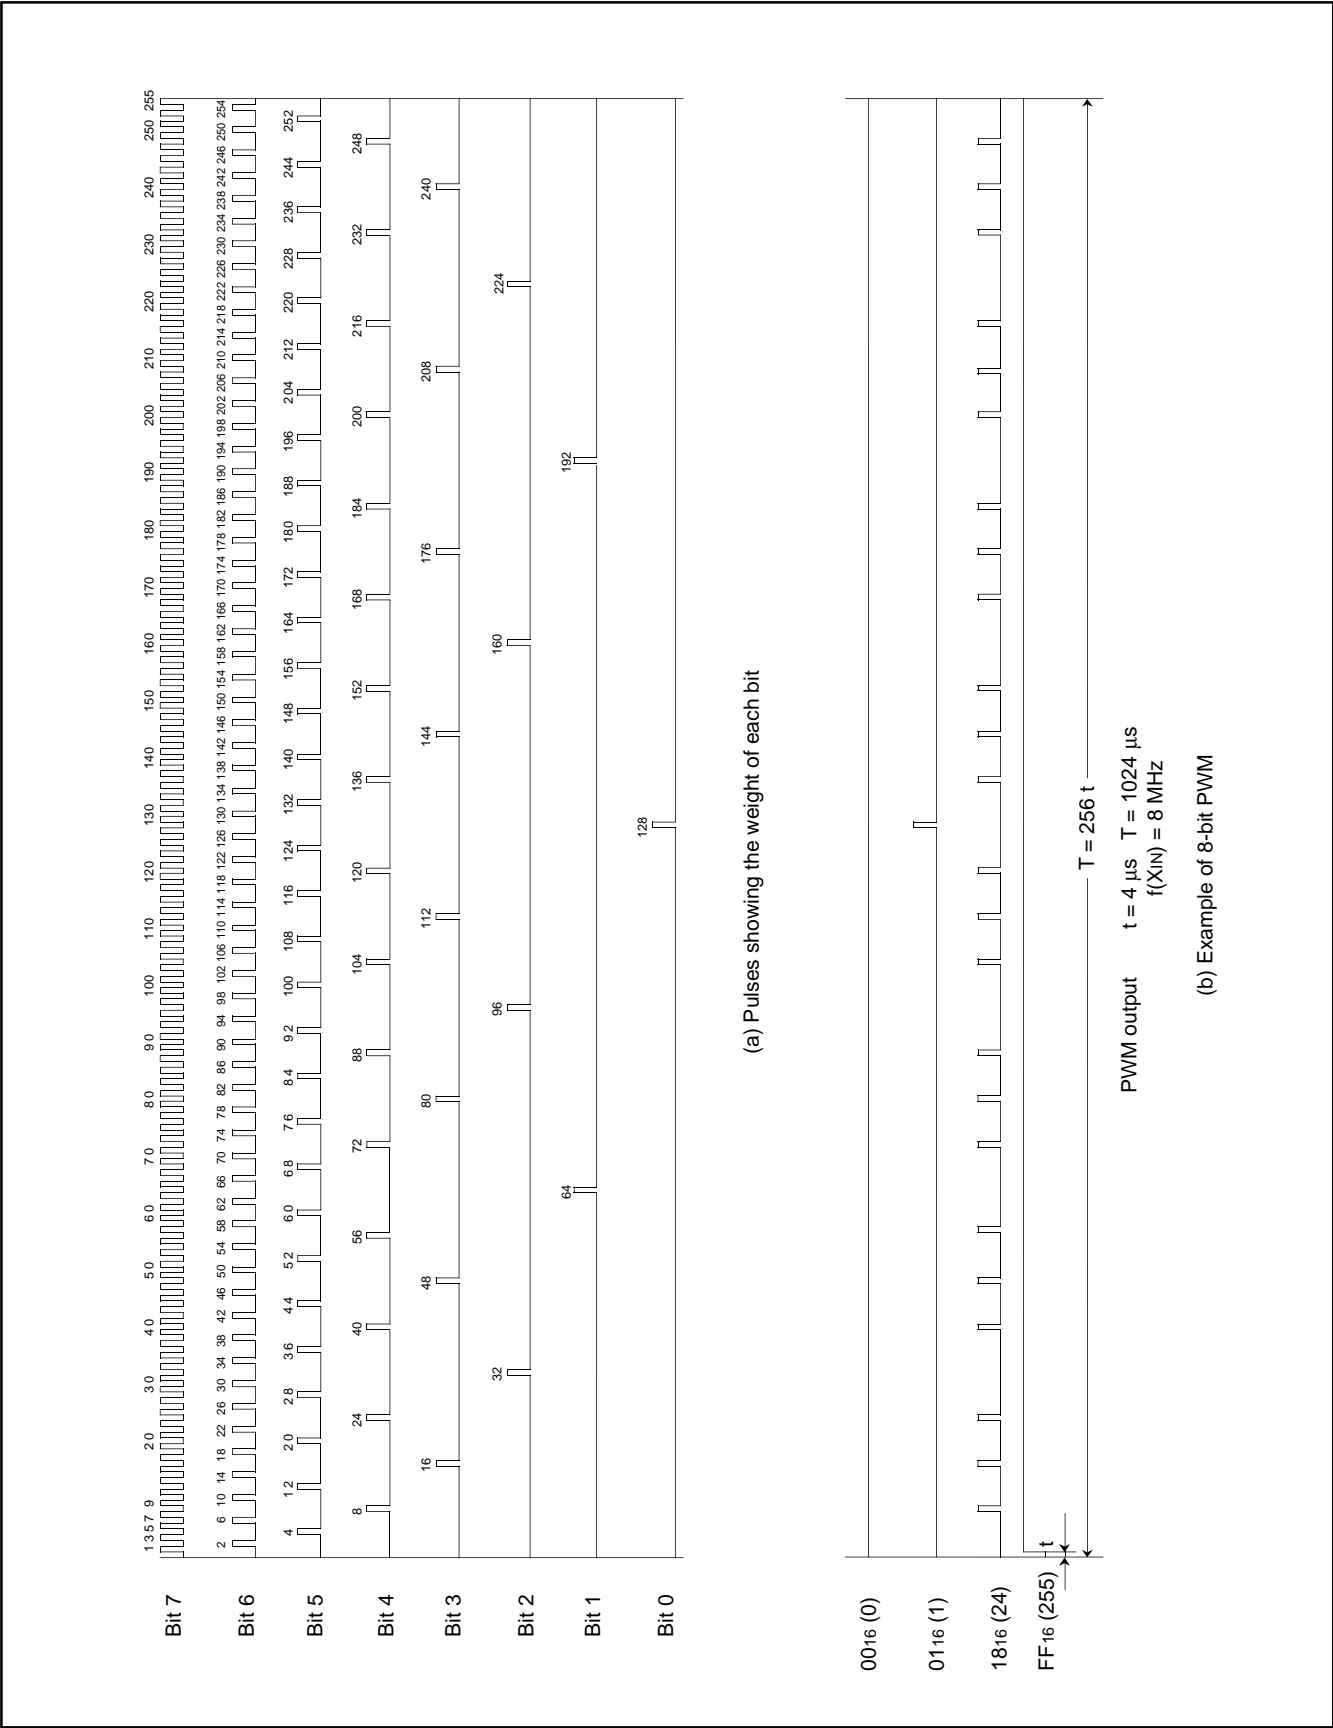

Fig. 8.7.2 PWM Timing
Figure 8.7.2 shows the 8-bit PWM timing. One cycle (T) is composed of 256 (2⁸) segments. 8 kinds of pulses, relative to the weight of each bit (bits 0 to 7), are output inside the circuit during 1 cycle. Refer to Figure 8.7.2 (a). The 8-bit PWM outputs a waveform which is the logical sum (OR) of pulses corresponding to the contents of bits 0 to 7 of the 8-bit PWM register. Several examples are shown in Figure 8.7.2 (b). 256 kinds of output (HIGH area: 0/256 to 255/256) are selected by changing the contents of the PWM register. An entirely HIGH section cannot be output, i.e. 256/256.